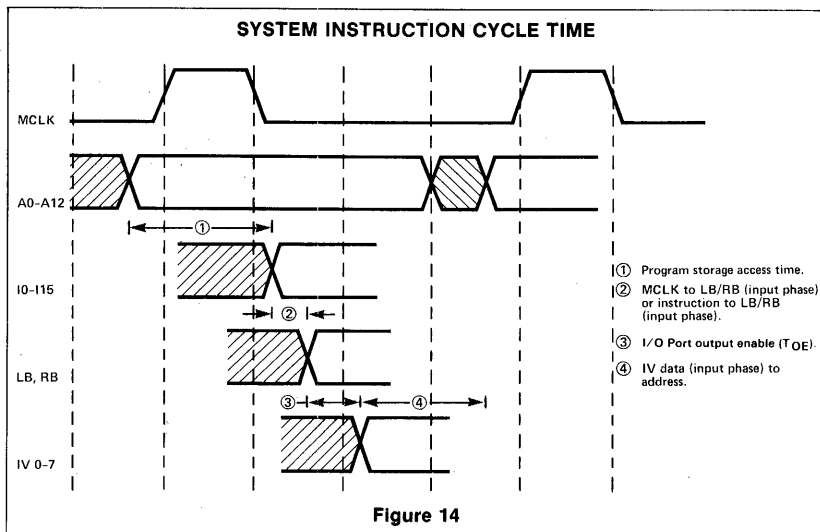

Figure 14
2. Program storage access time and instruction to LB/RB (input phase) and I/O Port output enable and IV data (input phase) to address  $\leq$  instruction cycle time (Figure 14).